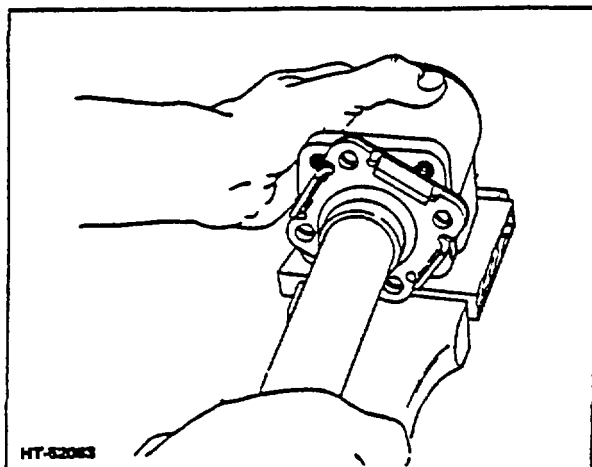

Figure 10. Checking Control Spool Rotation
8. Remove control assembly from vise, and check for free rotation of the control spool and sleeve parts with the column shaft (Fig. 10).